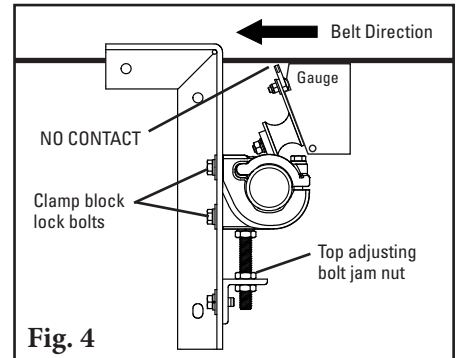

Fig. 4
- 4. Set the tip angle.** With angle gauge provided, rotate the tips to the preset angle (Fig. 4) and lock the pole in place by tightening the clamp block bolts equally.
NOTE: Make sure there is NO tip-to-belt contact while making this alignment. If contact occurs, lower the pole by loosening the clamp block lock bolts and raising the top adjusting bolt jam nut (Fig. 4). When the tips are not touching the belt, repeat this step.
4. **Connect the supply lines and set tension pressure.** With the parts supplied, attach a line to each air bag and run the lines to the outlet side of the control box (Fig. 4).